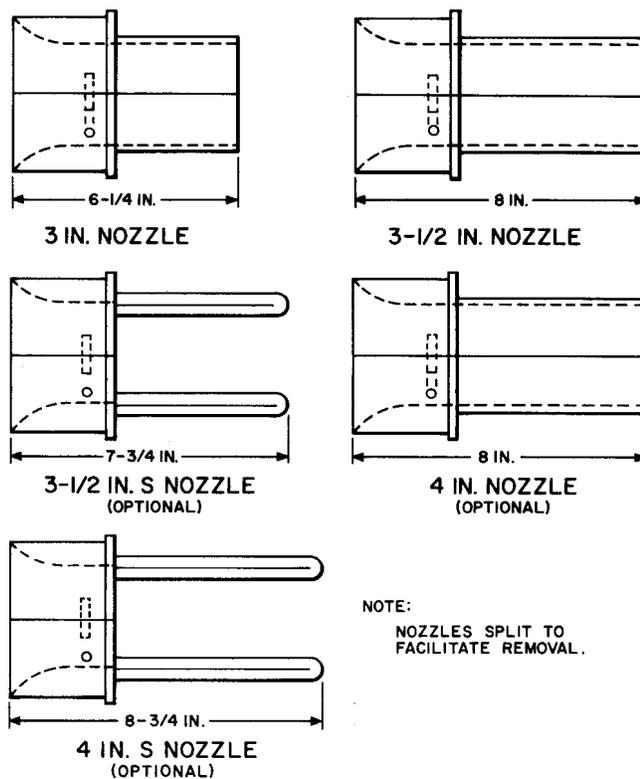

Fig. 2—Nozzle for Cable Feeder
2.04 The various nozzles (Fig. 2) are split to facilitate removal from the duct and are used to join the main section to the conduit. Both halves of each nozzle are marked with the nozzle size (Table A). To prevent cable damage, make certain that matching halves are used. The superseded 3-1/4 inch nozzle and the 3-1/4 inch S nozzle have no size marking. A 4-inch HS nozzle to fit a 4-inch round bore conduit is available for use with the cable feeders. This nozzle is made with high strength steel which allows a thinner wall for passage of larger size pulling eyes.